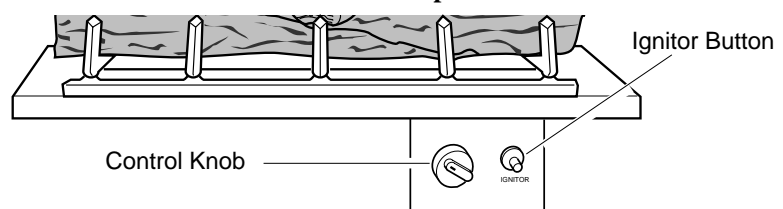

Figure 27 - Control Knob and Ignitor Button Location
4. Wait five (5) minutes to clear out any gas. Then smell for gas, including near the floor. If you smell gas, STOP! Follow “B” in the safety information above. If you don’t smell gas, go to the next step.
5. Slightly depress and turn control knob counterclockwise  to the PILOT position. Press in control knob for five (5) seconds (see Figure 27, above).